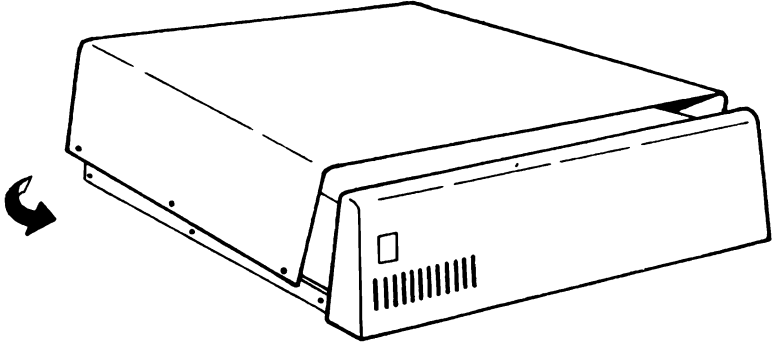

Figure 7A
1. Slide the front of the cover onto the back of the expansion chassis, while holding the back of the cover up, as shown in Figure 7A. Push the cover forward and down to complete the installation.